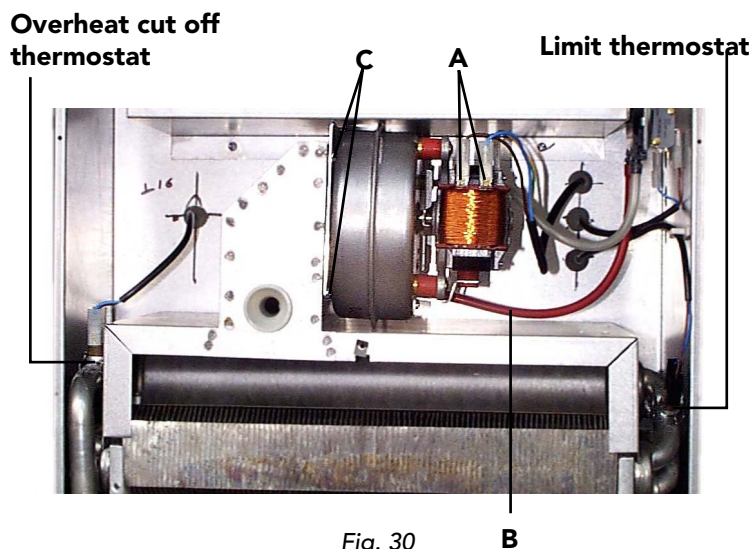

Fig. 30
## 7.11 Removal of fan (fig. 30)
## 7.12 Limit thermostat, or overhear cut off thermostat (fig. 30)
- Identify the location of thermostat from fig. 30